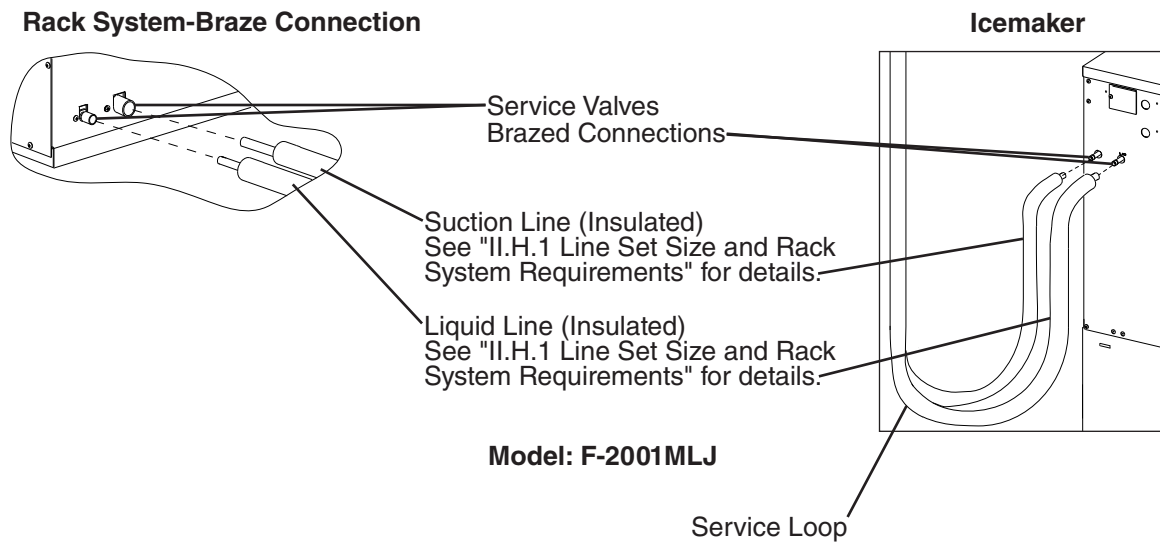

Fig. 12
- 1) Route the proper size copper tube liquid line and copper tube suction line. See "II.H.1 Line Set Size and Rack System Requirements" for details from the rack system to the icemaker. Leave a service loop behind the icemaker to allow the icemaker to be pulled out for service. See Fig. 12. Note: The service loop is not considered an oil trap.